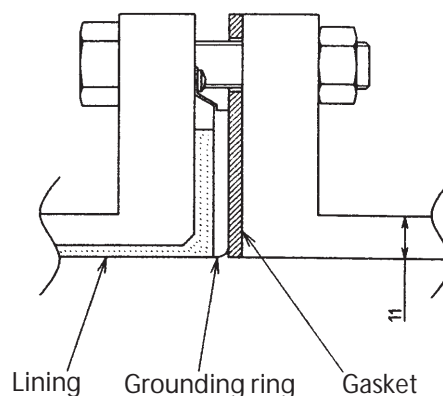

Figure 2-27 Installation using SUS material grounding rings
- Install the detector as shown in Figure 2-27. The torque level for tightening the bolts is not related to the gasket material. See Table 2-5 on page 2-26 for the appropriate torque. For the internal diameter of the gaskets, see Table 2-2 on page 2-15.